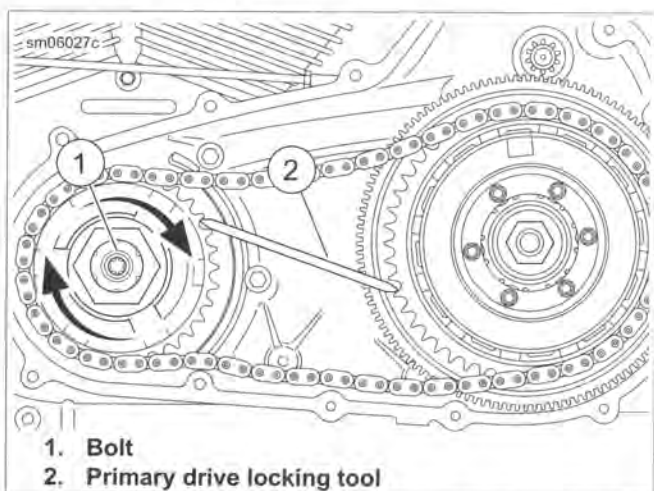

Figure 5-12. Installing Engine Compensating Sprocket Bolt
- See Figure 5-12. Place the PRIMARY DRIVE LOCKING TOOL (Part No. HD-48219) between the teeth of the engine and clutch sprockets as shown.